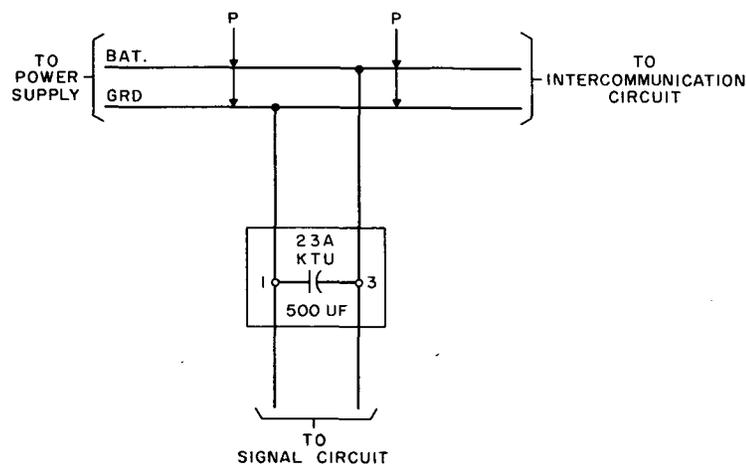

Fig. 1 - Noise Suppression Filter
2.06 Where a common battery feeder is used for intercommunicating and signaling, connect a 23A KTU across the signal circuit (Fig. 1).